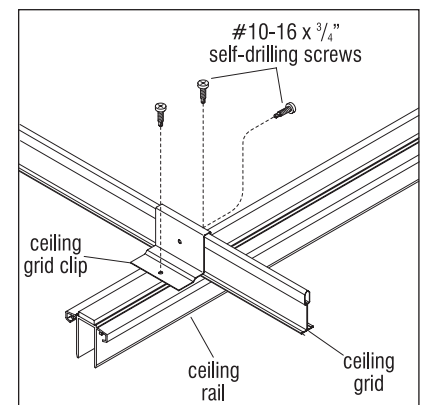

Figure 3
3. Secure clip to ceiling rail using two #10-16 x $\frac{3}{4}$ " self-drilling screws (Figures 3 & 4).
4. Secure clip to ceiling grid using one #10-16 x $\frac{3}{4}$ " self-drilling screw (Figures 3 & 4).